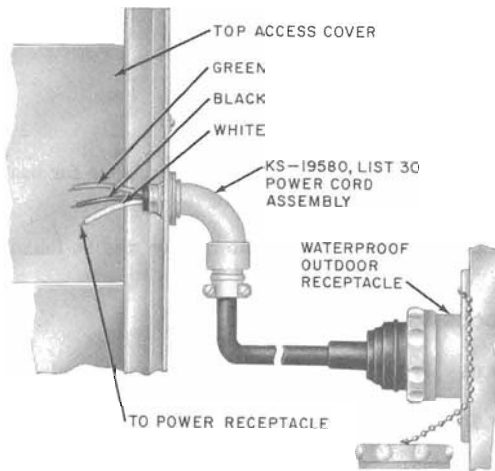

Fig. 18—KS-19580, List 30 Power Cord Assembly Overhead Entrance
3.10 For overhead entrance with plug-in features, use KS-19580, List 30 power cord assembly and install per Fig. 18.